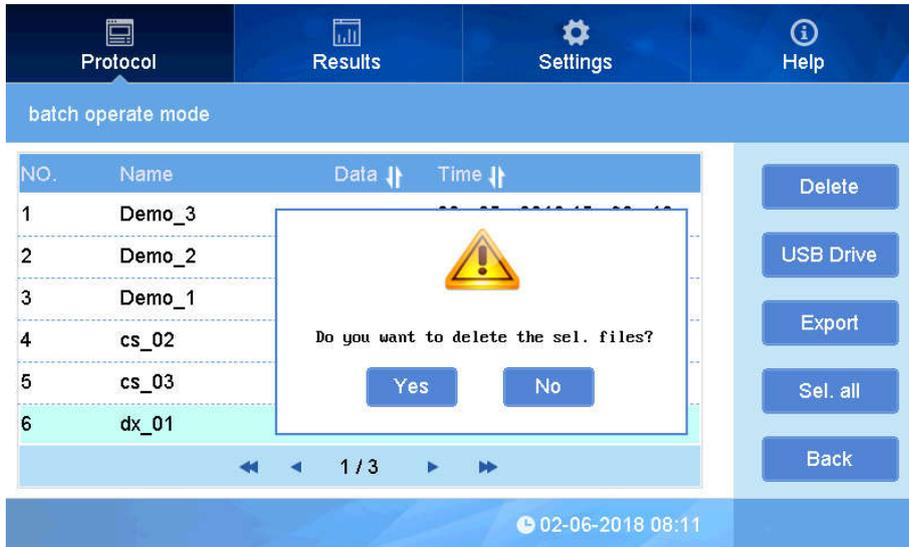

fig 7
**Delete** :Delete the protocol file(Fig 7).